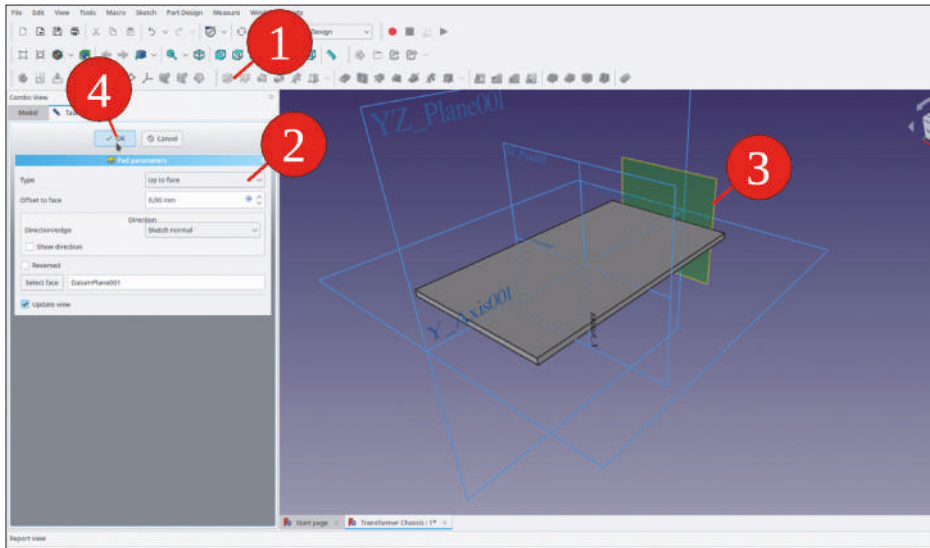

Figure 9-54
14. In the task window, select for the type 'Up to face'. Select the datum plane 'Position Rear Panel' as the face, either by clicking on it in the 3D view, or by switching to the 'Model' tab and clicking on its tree branch. (Figure 9-54). Close the task with the 'OK' button.